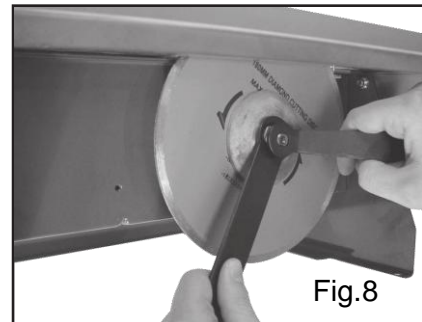

Fig.8
4. Use suitable wrenches to loosen and remove the arbor nut from the motor spindle as shown in (fig.8)
5. Slide the outer flange (fig.8) and the diamond blade off the end of the motor spindle